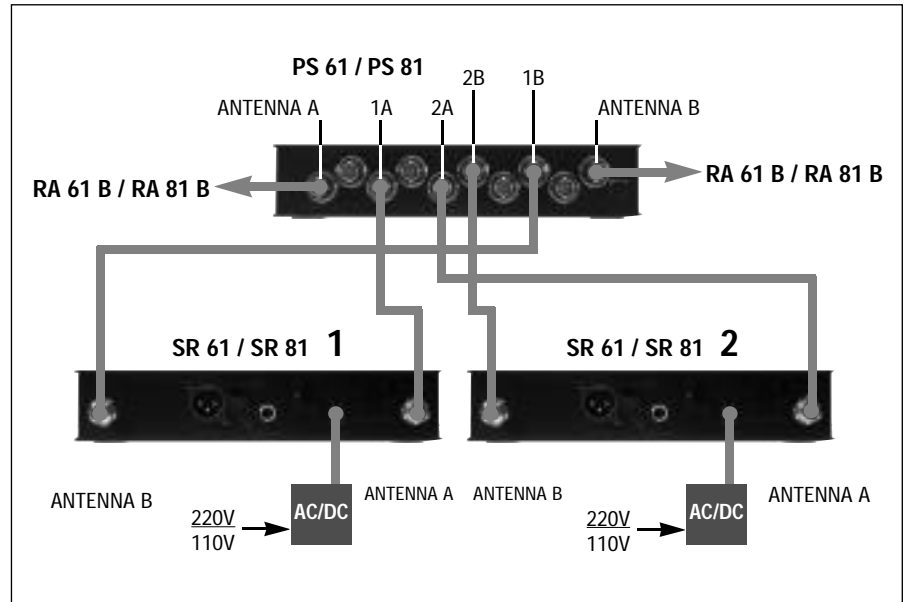

Fig. 6: Wiring a two-channel system.
1. Use BNC cables (optional - see section 2.3) to connect one receiver to outputs 1A and 1B and another receiver to outputs 2A and 2B as shown in fig. 6 above.
2. Connect the other Power Splitter outputs to the ANTENNA inputs on the other receivers as shown in fig. 6.
1. Use BNC cables (optional) to connect the Power Splitter outputs to the ANTENNA inputs on the receivers as shown in fig. 6 above.